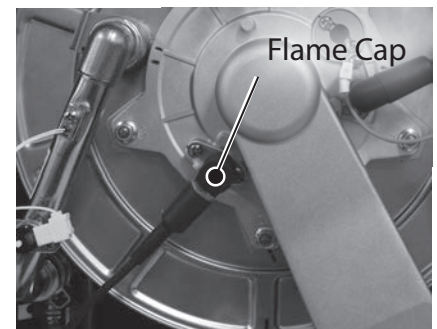

Figure 69 - Remove flame sensor cap
- 5** Locate the flame sensor on the burner assembly as shown in Figure 69. Remove the cap from the flame sensor. **DO NOT** pull on wires.